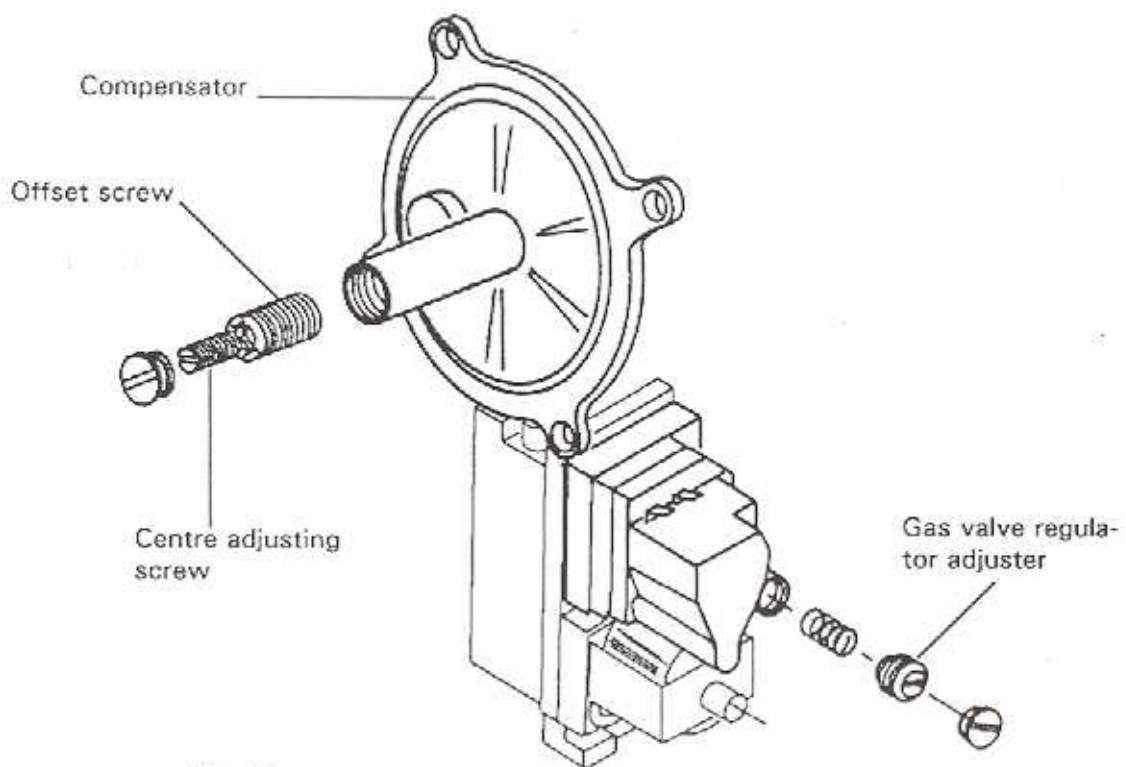

Fig.48
- 8.24.12 Adjust the gas pressure to 0.6 mbar  $\pm$  0.1 mbar by turning the offset screw in the compensator using a tube spanner. (Fig.48)
- 8.24.13 Adjust the minimum gas pressure to 0.8 mbar  $\pm$  0.2 mbar by turning the centre adjusting screw in the compensator. (Fig.48)
- 8.24.15 Turn the ADJ HEAT potentiometer fully clockwise, adjust the main burner to 9.4 mbar using the adjuster on the gas valve regulator (Fig.48).